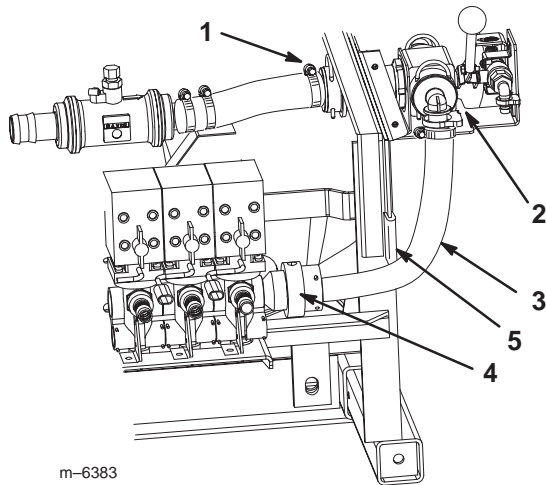

Figure 14
3. Connect the fitting you installed into the boom supply hose to the control valve assembly, securing it with the retainer you removed previously (Fig. 14).
8. Connect the fitting on the large hose on the control valve assembly to the fitting on the right side of the boom supply valves (Fig. 14).
9. Disconnect the large hose from the control valve and look inside the valve (Fig. 14). You should see an opening in the check ball curving up. If not, rotate the ball until the opening is fully visible and it curves up.
10. Connect the large hose to the control valve (Fig. 14).
11. Place the rubber trim piece over the frame edge to protect the hose (Fig. 14).